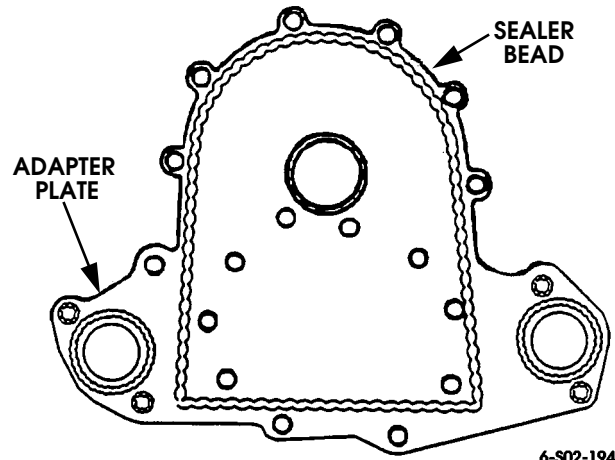

Figure 2-197: Adapter Plate Sealer Application
2. Apply Loctite gasket maker or 510 to contact area of adapter plate as shown (Figure 2-197).